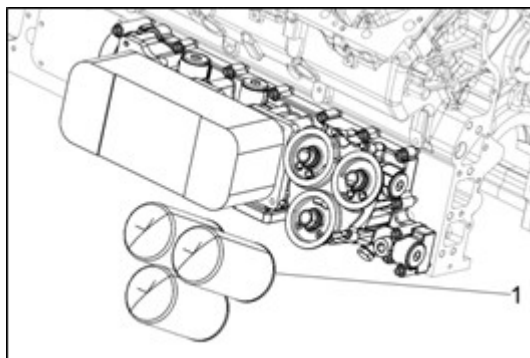

Figure 163
4. Remove the oil filter (Fig 163, item 1) with the special tool.